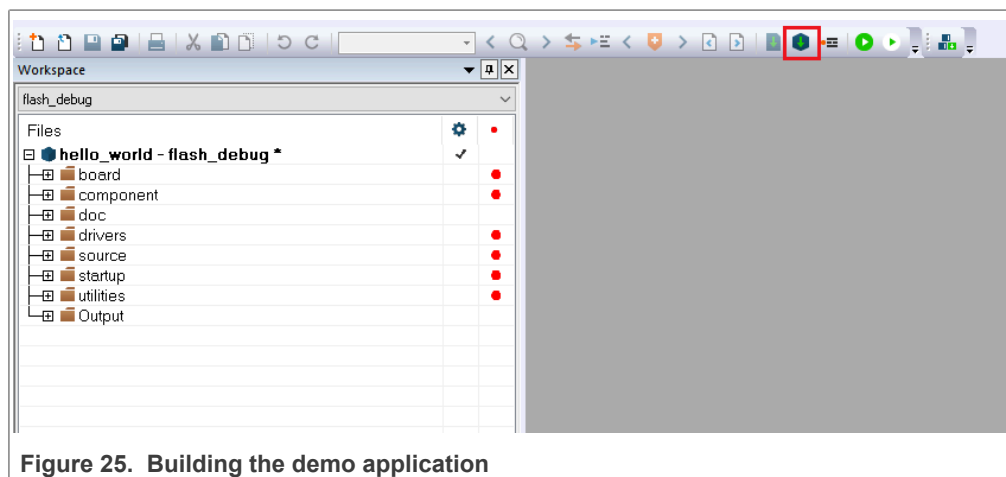

Figure 25. Building the demo application
3. To build the demo application, click **Make**, highlighted in red in Figure 25.